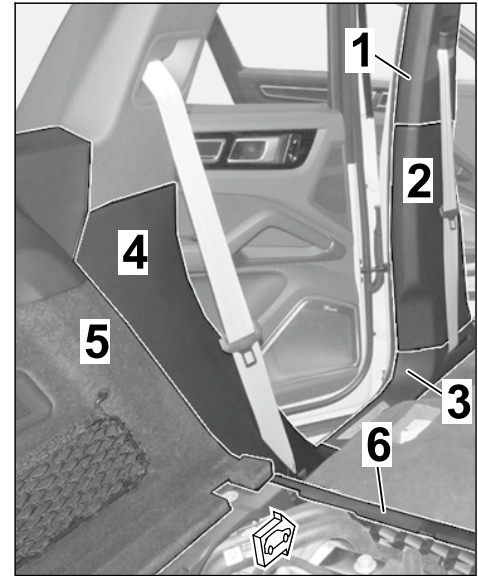

Figure 8
1.6 Expose the B-pillar area (left side) (⇒ *Figure 8*)